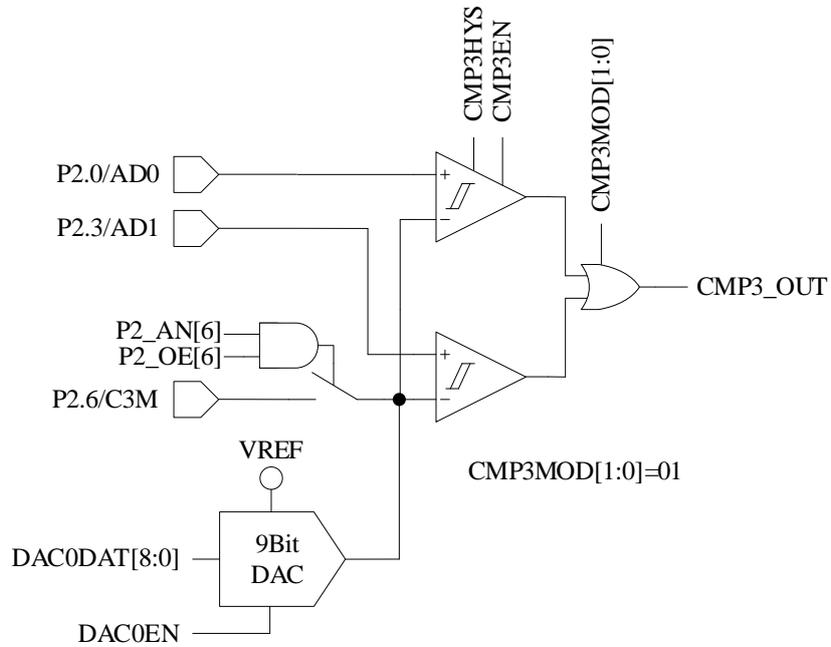
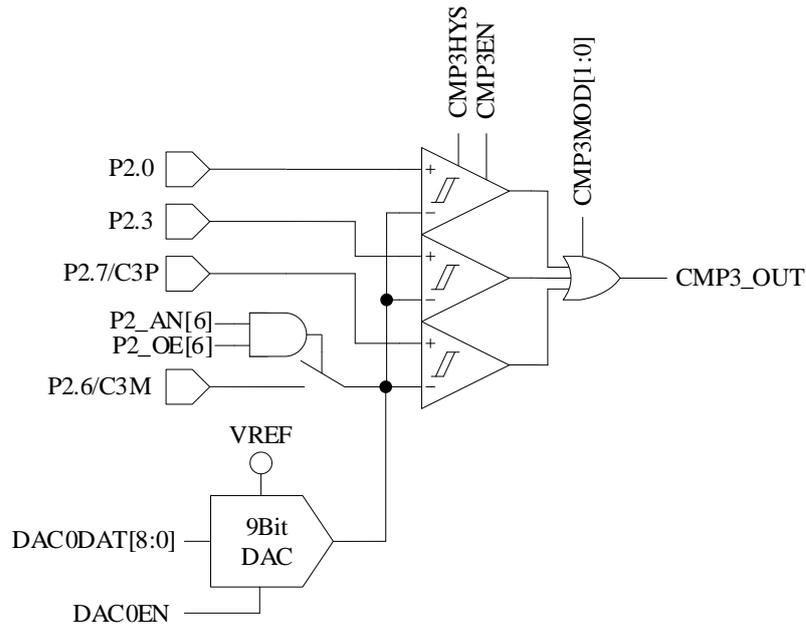

Figure 31-3 Dual-comparator Input Mode
Figure 31-4 Triple-comparator Input Mode
- When CMP\_CR1[CMP3MOD] = 01, CMP3 works in Dual-comparator Input Mode. The connection of input and output pins are shown in Figure 31-3.
- When CMP\_CR1[CMP3MOD] = 1X, CMP3 works in Three-comparator Input Mode. The connection of input and output pins are as shown in Figure 31-4.
01: Dual-comparator mode, where P2.0 and P2.3 are connected to the positive input, as shown in Figure 31-3. 1X: Three-comparator mode, where P2.0, P2.3 and P2.7 are connected to the positive input, as shown in Figure 31-4.